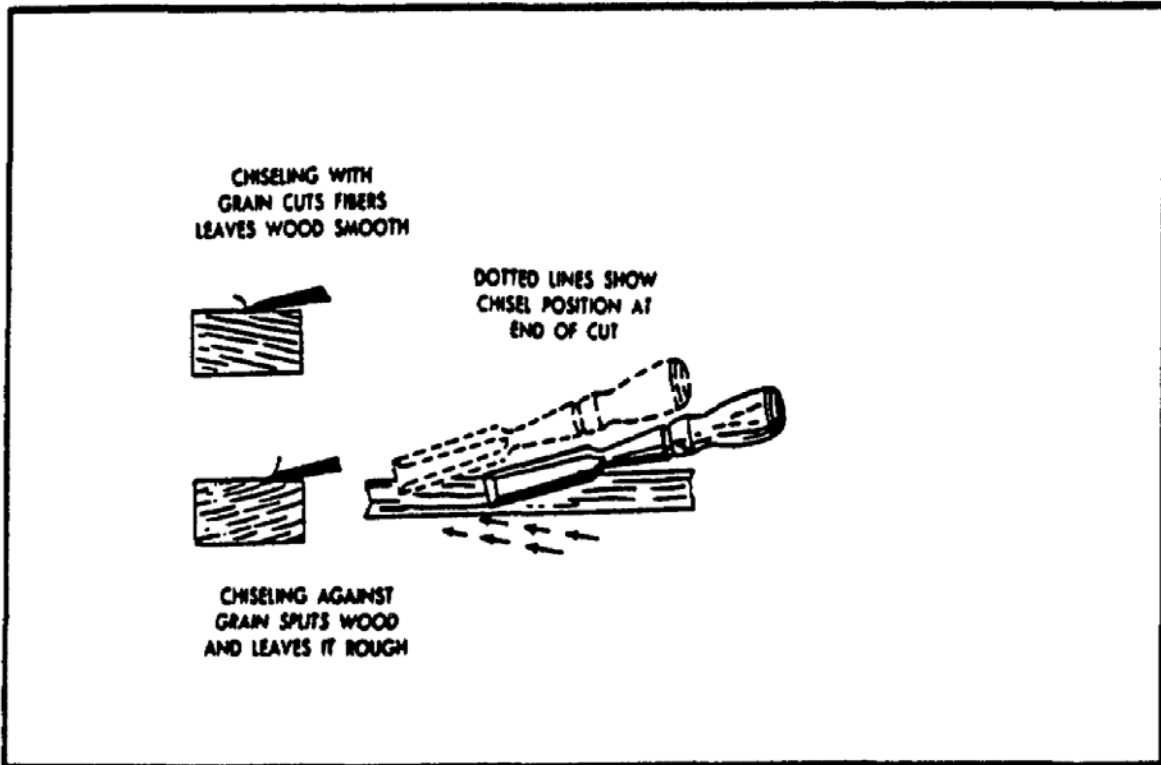
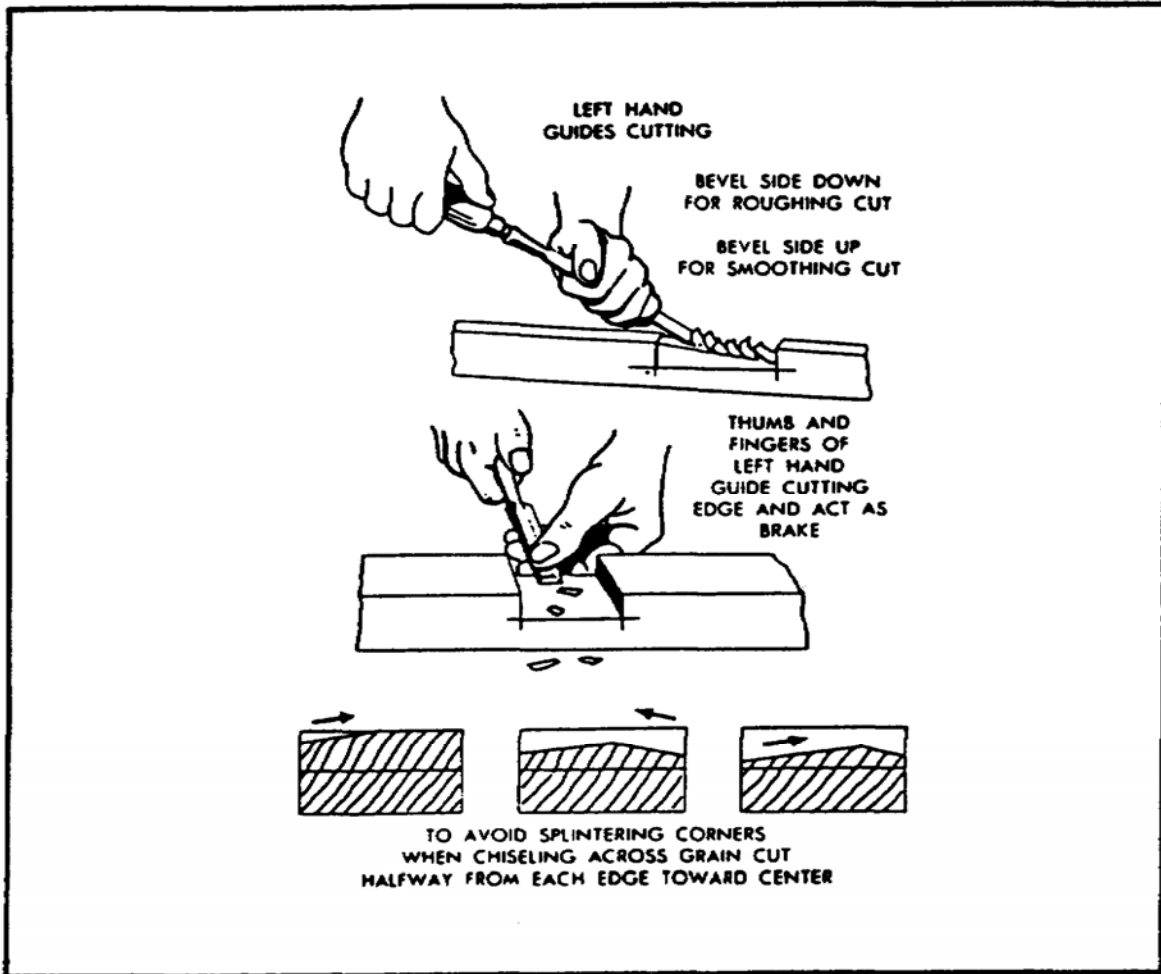

FIGURE 82. PARING OR SHEARING CUT - WOODWORKER'S CHISEL.
FIGURE 83. CHISEL HORIZONTALLY.
(1) *Woodworker's Chisels*. A woodworker's chisel should always be held with the flat side or back of the chisel against the work for smoothing and finishing cuts. Whenever possible, it should not be pushed straight, but should be moved laterally at the same time as it is pushed forward (figure 82). This method ensures a shearing cut, which, with care, will produce a smooth and even surface even when the work is cross-grained. On rough work, use a hammer or mallet to drive the socket-type chisel. On fine work, use your hand as the driving power on tang-type chisels. For rough cuts, the bevel edge of the chisel is held against the work. Whenever possible, other tools, such as saws and planes, should be used to remove as much of the waste wood as possible, the chisel being used for finishing purposes only.
- 7 Examine the grain of the wood to see which way it runs. Cut with the grain (figure 82). This severs the fibers and leaves the wood smooth. Cutting against the grain splits the
(b) *To Cut Horizontally With the Grain.* Grasp the chisel handle in one hand with the thumb extended towards the blade (figure 83). The cut is controlled by holding the blade firmly with the other hand, knuckles up and the hand well back of the cutting edge. The hand on the chisel handle is used to force the chisel into the wood. The other hand pressing downward on the chisel blade regulates the length and depth of the cut. The chisel will cut more easily and leaves a smoother surface when the cutting edge is held at a slight diagonal to the direction of the cut, or is given a slight lateral sliding motion (figure 82). This is done by holding the tool at a slight angle and moving it to one side as it is pushed forward, or by moving it slightly from left to right at the same time you push it forward. With cross-grained wood, it is necessary to work from both directions to avoid splitting the wood at the edges. Do not hurry. Cut only fine shavings. If thick shavings are cut, the tool may dig in and split off a piece of wood which was not intended to be removed.
(c) *To Cut Horizontally Across the Grain.* Work must be held in a vise and most of the waste wood is removed by the chisel with the bevel held down. On light work, use hand pressure or light blows on the end of the chisel handle with the palm of the right-hand. On heavy work, use a mallet. To avoid splitting at the edges, cut from each edge to the center and slightly upward, so that the waste wood at the center is removed last (figure 83). Finishing cuts are made with the flat side of the chisel down. Never use a mallet when making finishing cuts, even on large work. One hand pressure is all that is necessary to drive the chisel, which is guided by the thumb and forefinger of the other hand. Finish cuts should also be made from each edge toward the center. Do not cut all the way across from one edge to another or the far edge may split.
To cut a stopped chamfer, hold the chisel with the edge parallel to the slope of the chamfer and cut with the grain as in ordinary horizontal paring (figure 82). Begin at the ends and work towards the center. The ends of a chamfer may be either flat or curved. If flat, use the chisel with the bevel up. If curved, keep the bevel down when cutting.